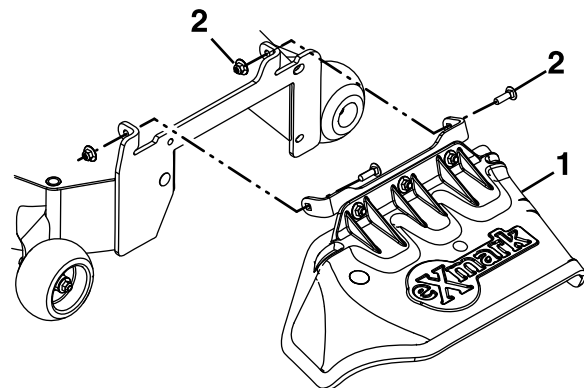

Figure 7
7. Install the discharge deflector using retained hardware (see Figure 7).